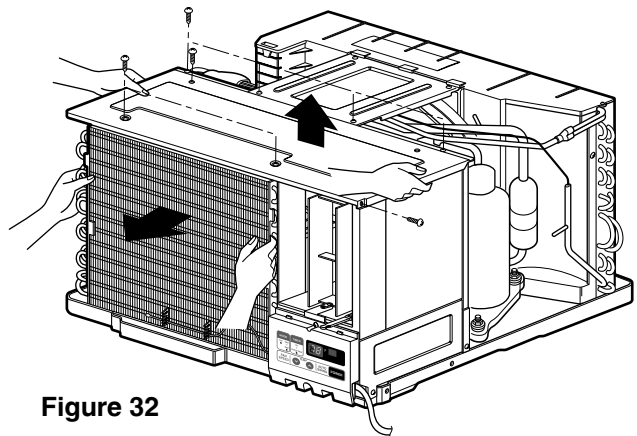

Figure 32
7. Re-install the components by referring to notes. (See Fig. 32)